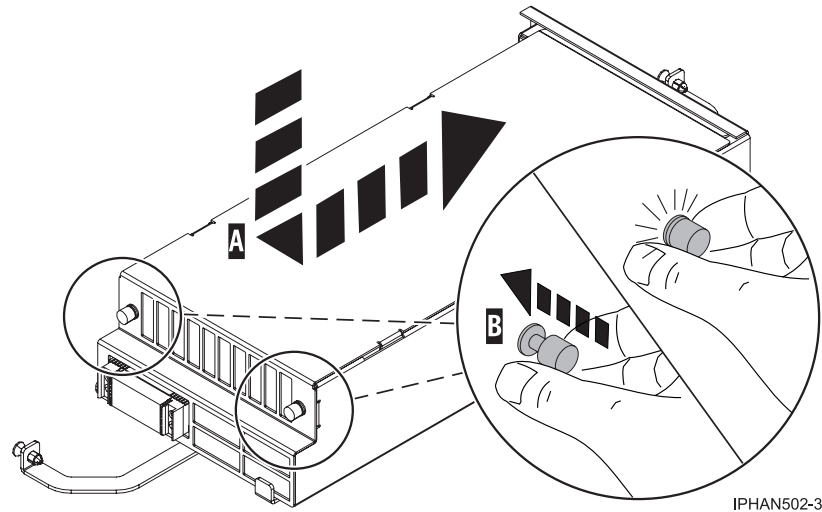

Figure 6. Replacing the system processor assembly cover
1. As shown in Figure 6 on page 12, place the cover (A) on the processor assembly and then lock the two retention knobs (B).